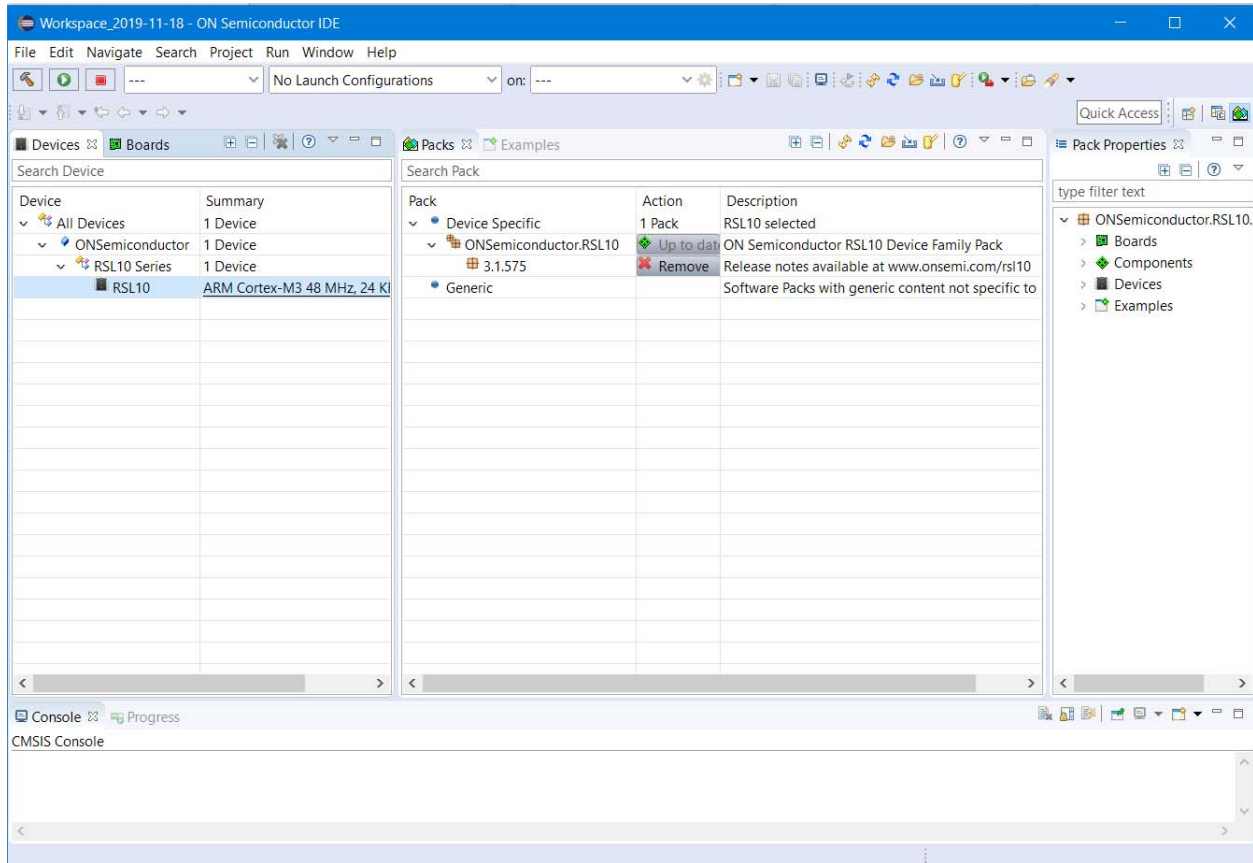

Figure 4. Pack Manager Perspective after RSL10 CMSIS-Pack is Installed
6. The RSL10 CMSIS-Pack now appears in the list of installed packs. In the **Devices** tab, if you expand **All Devices > ONSemiconductor > RSL10 Series** you can see RSL10 listed there. You can manage your installed packs in the **Packs** tab. Expanding **ONSemiconductor > RSL10** makes the **Pack Properties** tab display the details of the RSL10 CMSIS-Pack. Figure 4 illustrates what the Pack Manager perspective looks like after installation.